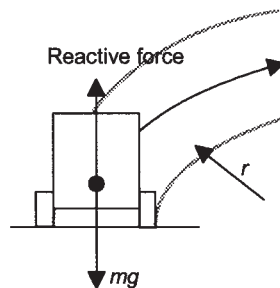

Figure 26.3 *Cornering on the flat*
26.3 Cornering Consider a vehicle of mass m rounding a horizontal corner of radius r (Figure 26.3).